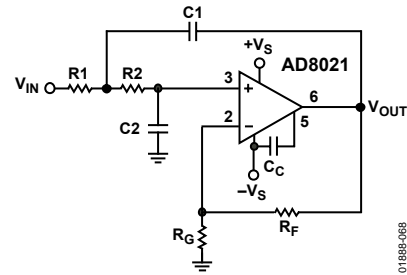
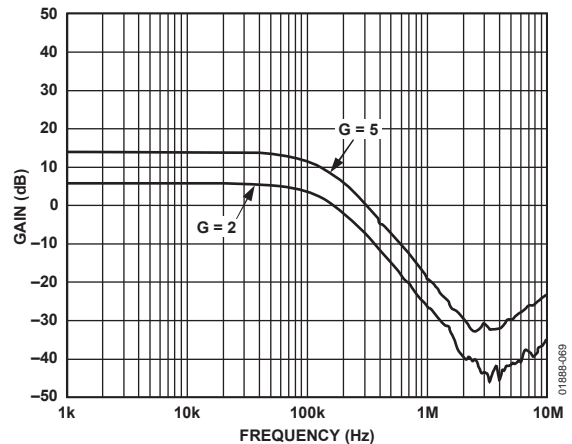

Figure 68. Schematic of a Second-Order, Low-Pass Active Filter
Figure 69. Frequency Response of the Filter Circuit of Figure 68 for Two Different Gains
Figure 68 shows the schematic of a 2-pole, low-pass active filter and lists typical component values for filters having a Bessel-type response with a gain of 2 and a gain of 5. Figure 69 is a network analyzer plot of this filter’s performance.
**Table 9. Typical Component Values for Second-Order, Low-Pass Active Filter of Figure 68**